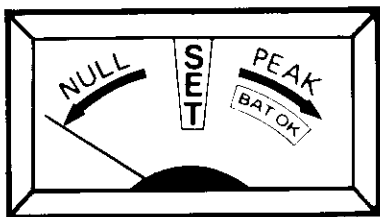

Fig. 5 — Receiver Signal Level Meter
- (c) The Receiver Signal Level Meter (Fig. 5) indicates the strength of the tone being received. Needle deflects to the right (PEAK) at greatest volume. Needle deflects to the left (NULL) for weak or canceled signal. The yellow center zone (SET) provides a reference for cable depth location. The BAT OK zone indicates acceptable battery condition.